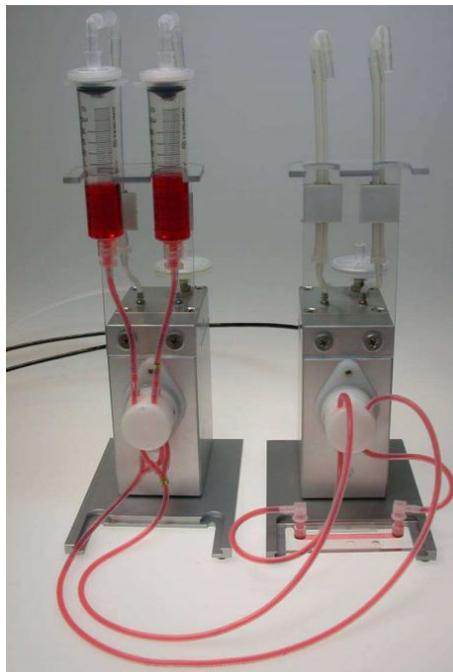

Figure 45: Set-up for pulsatile flow. The continuous flow created by Fluidic Unit 1 is periodically pinched off by Fluidic Unit 2.
5. Route the tubing of the Perfusion Set which is coming out of the first Fluidic Unit through the pinch valve of the second Fluidic Unit. Make sure that you use either the two front or the two rear openings of the pinch valve for that. Do not intermix front and rear openings. Compare your setup with Figure 45.